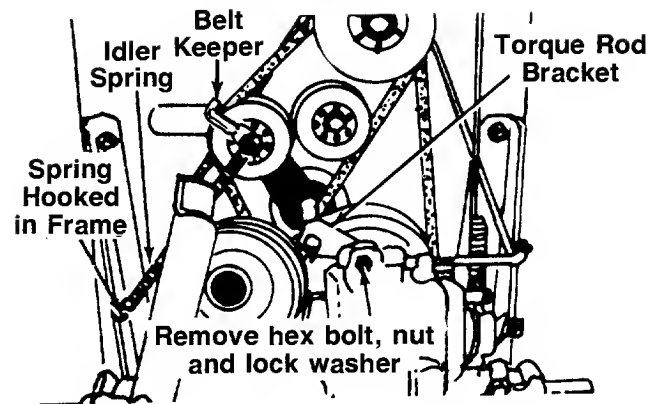

FIGURE 17.
3. Unhook the idler spring from the lawn tractor frame. See figure 17. Loosen the bolt which secures the belt keeper to the idler pulley.